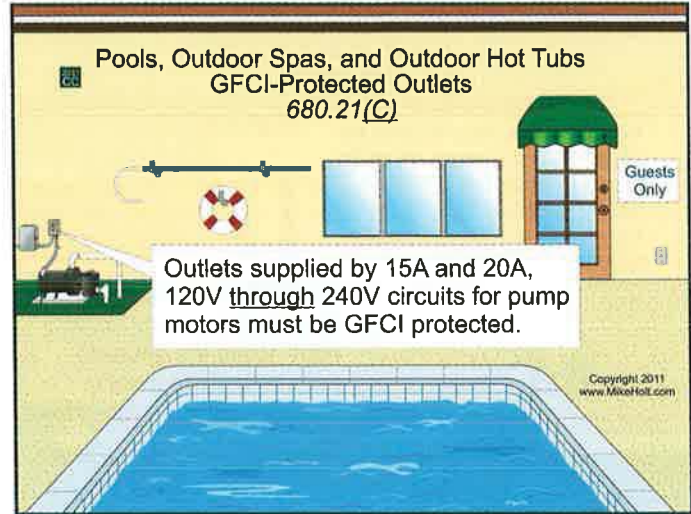

Figure 680-13
(C) GFCI Protection. GFCI protection is required for outlets supplying pool pump motors connected to single-phase 120V through 240V branch circuits rated 15A or 20A, whether by receptacle or by direct connection. **Figure 680-13**